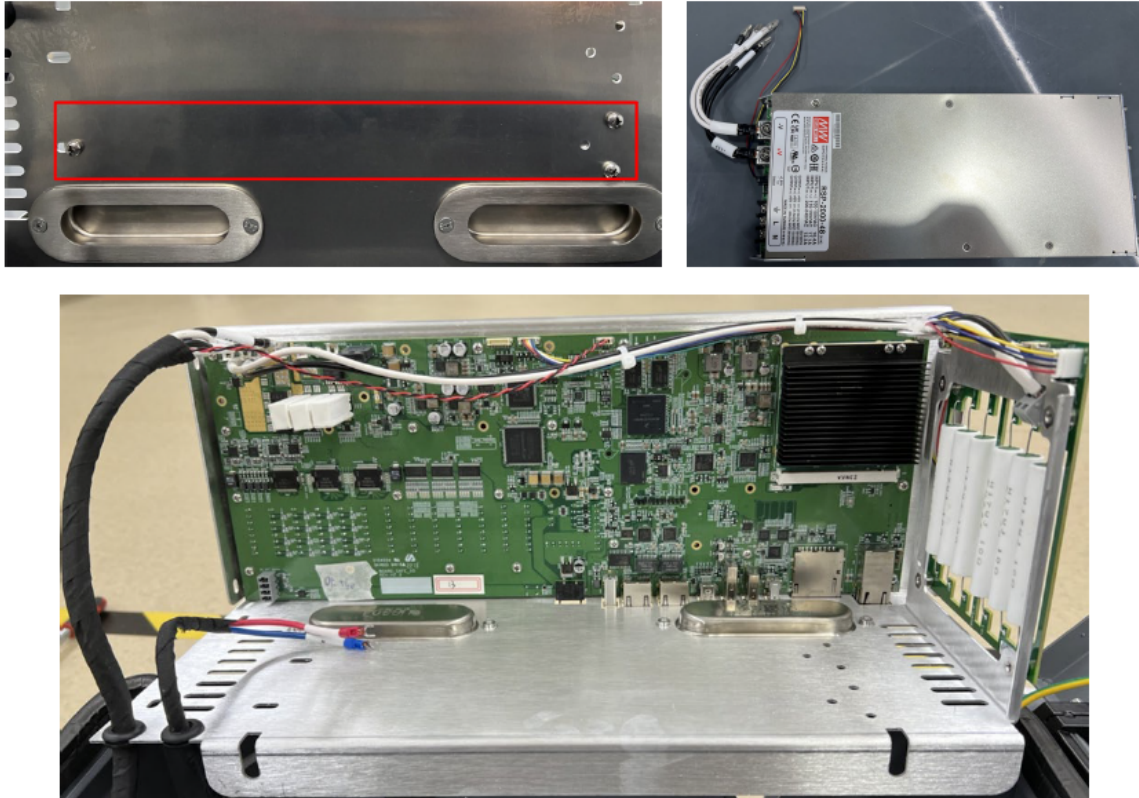

Figure 3-26 : Screw position and power placement
- As **Figure 3-26** , remove the 3 cross recessed pan head screw for holding the power supply. Then take the power supply out and place it somewhere safe;